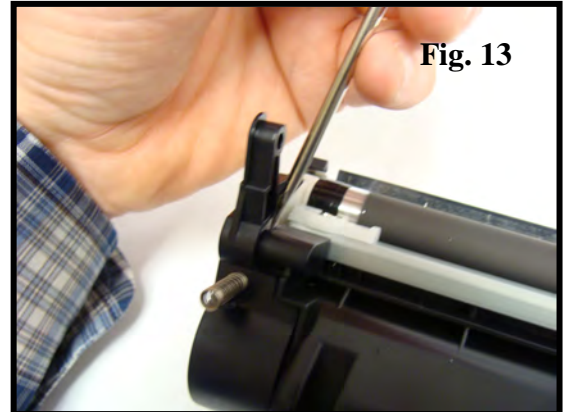

Fig. 13
13. Use a screw driver to gently pry outward to snap the final weld that secures the end cap (Fig. 13).